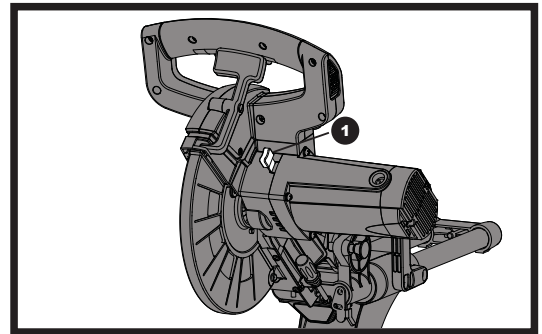

Fig 12
- 5) Locate the spindle lock (1). (See fig. 12)